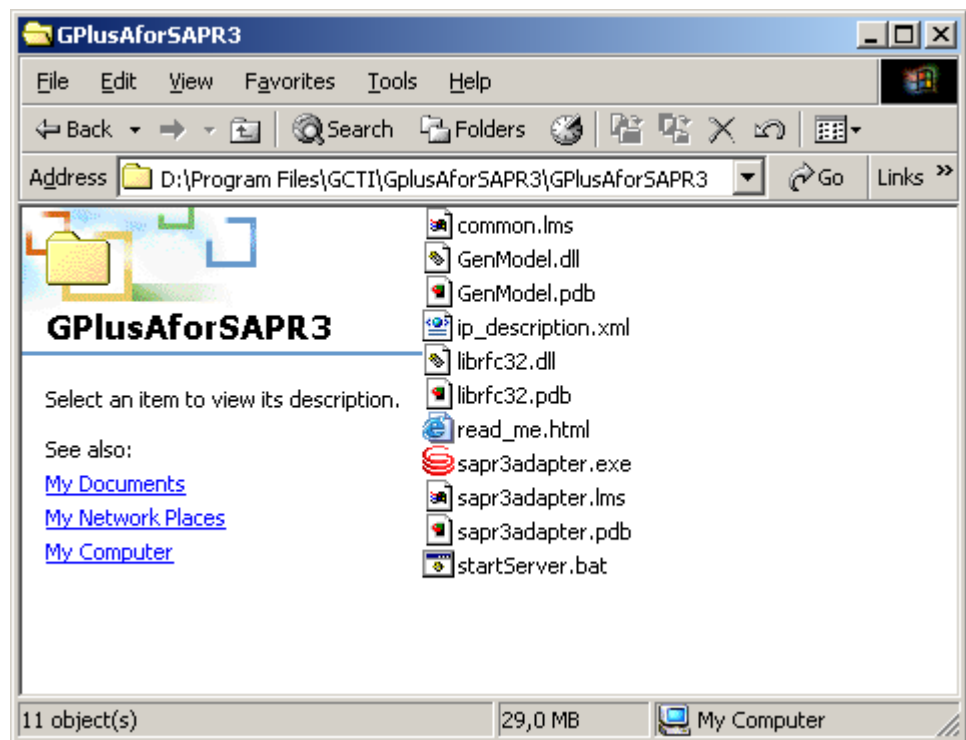

Figure 8: Destination Folder
- The Adapter's executable and auxiliary files in the destination folder. See Figure 8.